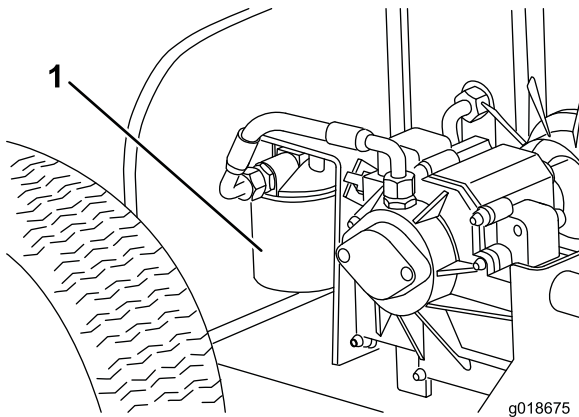

Figure 21
4. Clean the area around the filter mounting area (Figure 21).